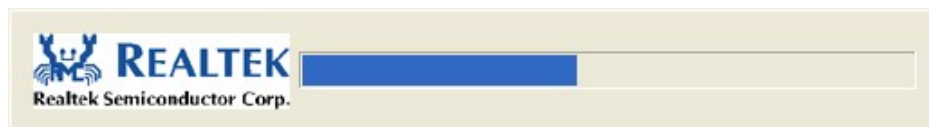

Figure 6-20: Audio Driver Installation
Step 6: The driver installation begins. See **Figure 6-20**.